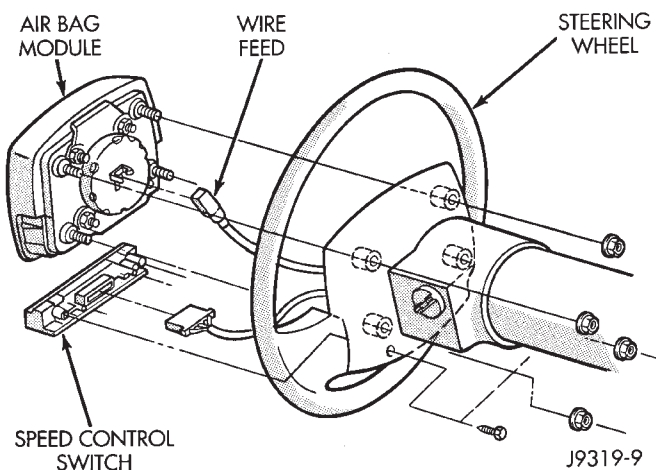

Fig. 2 Horn Switch Removal/Installation
(2) Disconnect and isolate the battery negative cable.
(3) Remove 4 retaining nuts from back of steering wheel. Remove air bag module (Fig. 2).
(4) Disconnect wire from rear of air bag module.
(5) Place air bag module on a clean level surface with pad facing upward.
(6) Pry out 2 trim cover buttons on back of steering wheel to access retaining screws for the horn switch.